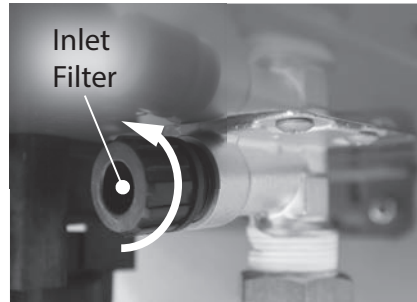

Figure 156 - Locate and remove inlet filter
- 8 Locate and remove the inlet filter as shown in Figure 156 to drain any residual water left in the system.